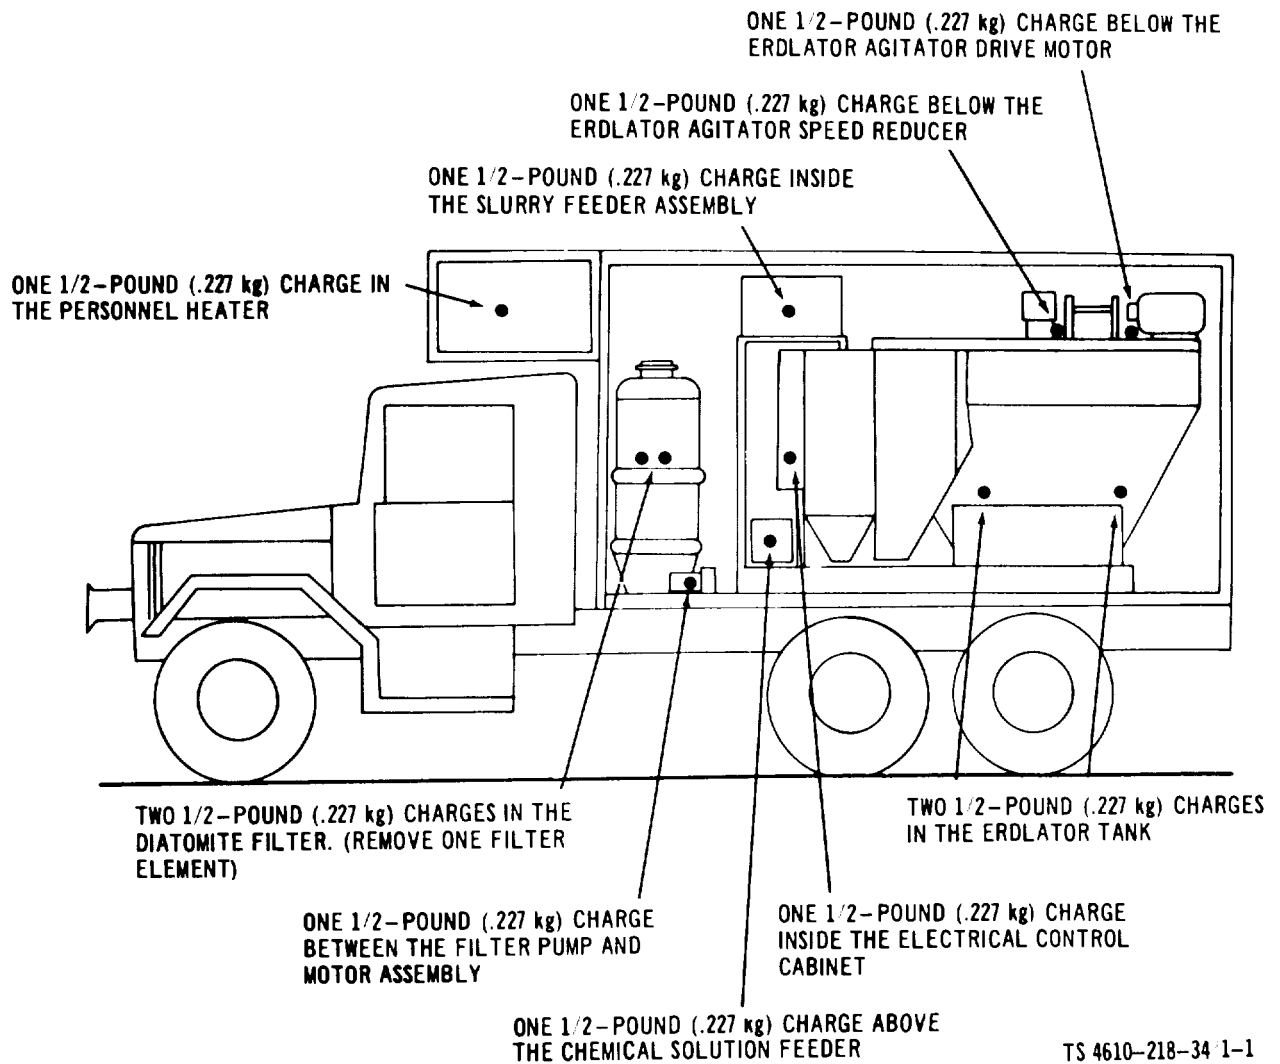

Figure 1-1. Placement of Charges for Demolition of Water Purification Unit
(1) *Explosives.* Place as many of the following charges (fig. 1-1) as the situation permits and detonate them simultaneously with detonating cord and a suitable detonator. Listed below are the vital parts in order of priority of demolition. Completion of the first four steps will render the unit inoperative. Completion of the additional steps will completely destroy the equipment.